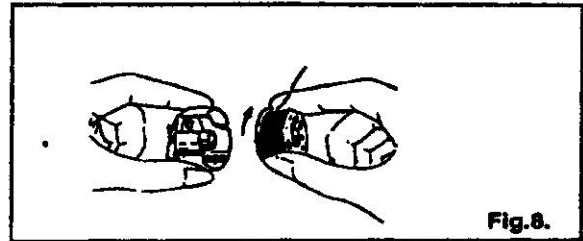

Fig.8.
1. Hold bobbin case so that thread unwinds in the direction shown in Fig.8. and put bobbin in bobbin case.
4. Winding thread around the shuttle core (see Figure 8)